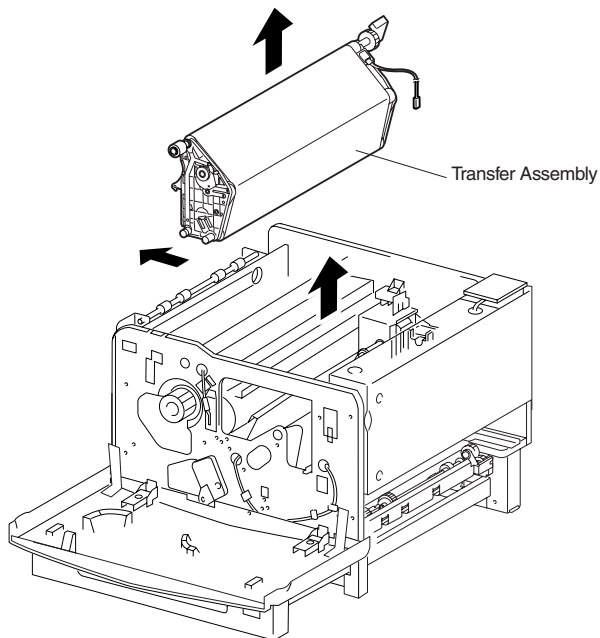

Figure 3
9. Lift the Transfer Assembly up, free the two HVPS wires from the grommet hole at the rear of the frame, and out of the printer frame (Figure 3).